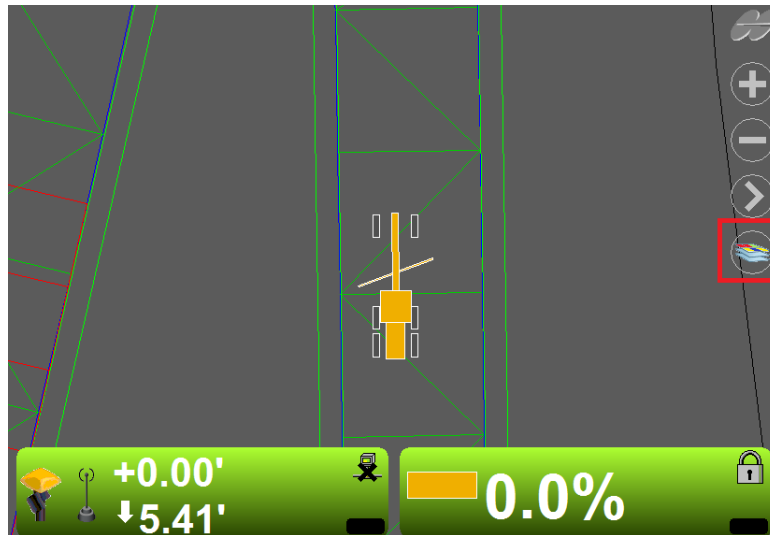

Figure 110: Shortcut Button on 3D-MC Main Screen
3. Tap **OK** to return to the main screen. The active shortcut buttons appear (Figure 110).